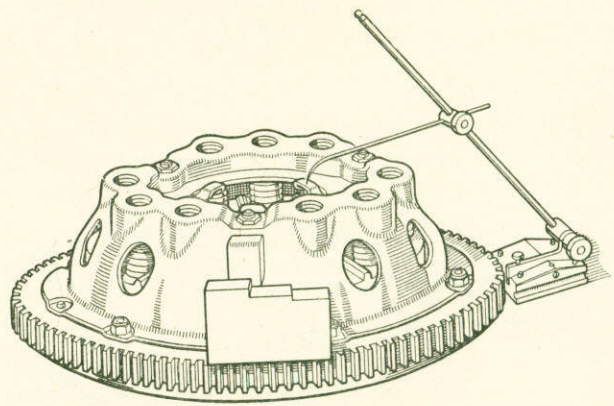

Fig. B-3—Setting the operating levers.
1. The setting of the clutch release levers is checked, using $\frac{3}{8}$ in. (9,5 mm) distance pieces in place of the driven plate. The levers must be adjusted to a dimension of 1.655 in. (42 mm) from the flywheel face, with a maximum of .010 in. (0,25 mm) difference in height between the three levers (Fig. B-3).